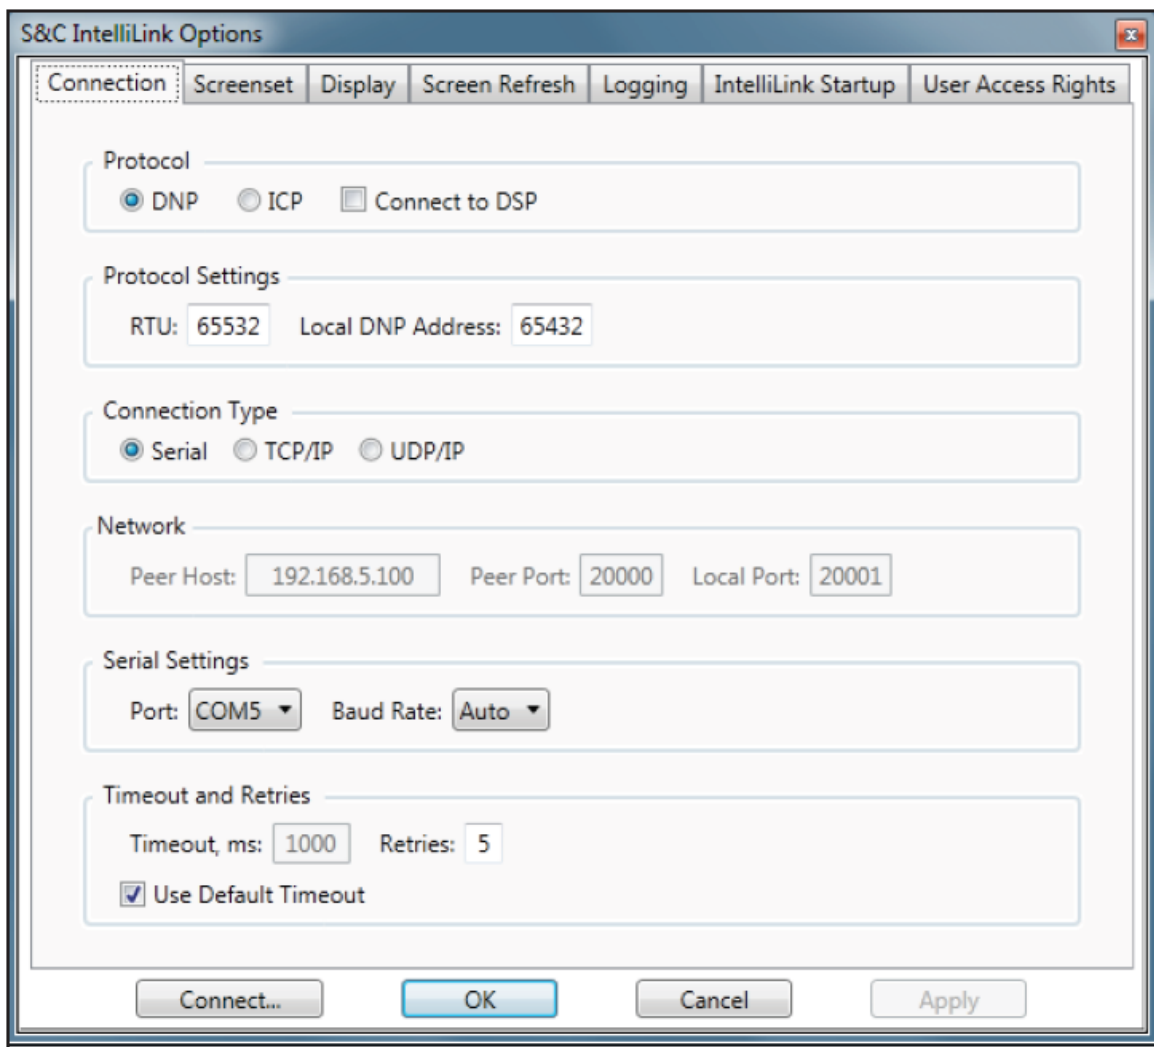

Figure 18. The S&C IntelliLink Options Connection tab.
- **STEP 4.** This will launch the IntelliLink software Options dialog box. Click on the Connection tab, shown in Figure 18. Make sure the Protocol setting is "DNP;" change if needed. Change the RTU setting to "self" or "65532." Change the Connection Type setting from "UDP/IP" to "Serial" and select the correct COM port. In this case the port is COM5. The Baud Rate setting should be "Auto." Verify the Timeout ms: setting is "1000" and the Retries setting is "5." Click on the OK button. See Figure 18.
- **STEP 4.** Locate the Tools menu option at the top of the screen. The communication parameters are on the Tools>Options menu. See Figure 18 on page 20. Change the Connection Type setting to “UDP/IP” and click on the Save & Exit button. Close the IntelliLink software.